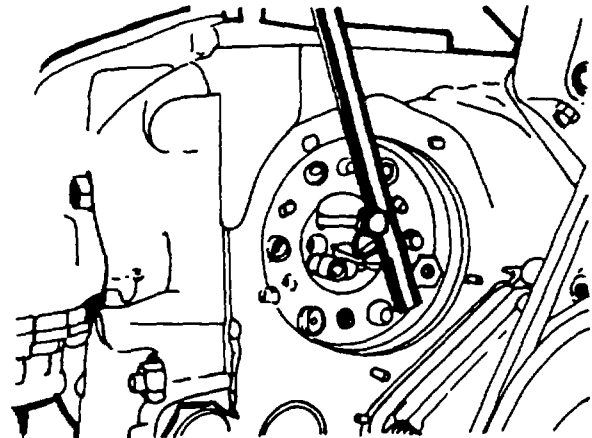

Figure 4-52. Turning Camshaft Using Jacking Bolts
13. By means of the two long jacking screws, turn the camshaft in the direction of engine rotation until the injection pump starts to deliver fuel (figure 4-52).